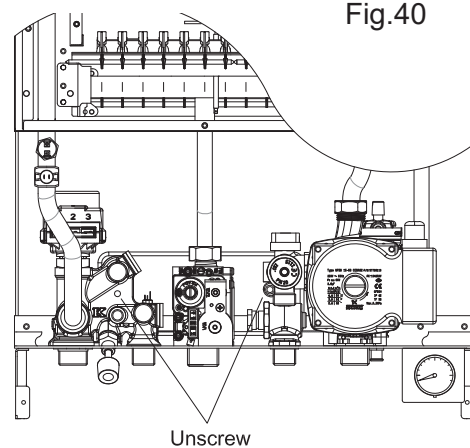

Fig.40
8.9 TO REMOVE/REPLACE PLATE HEAT EXCHANGER (Fig. 40)